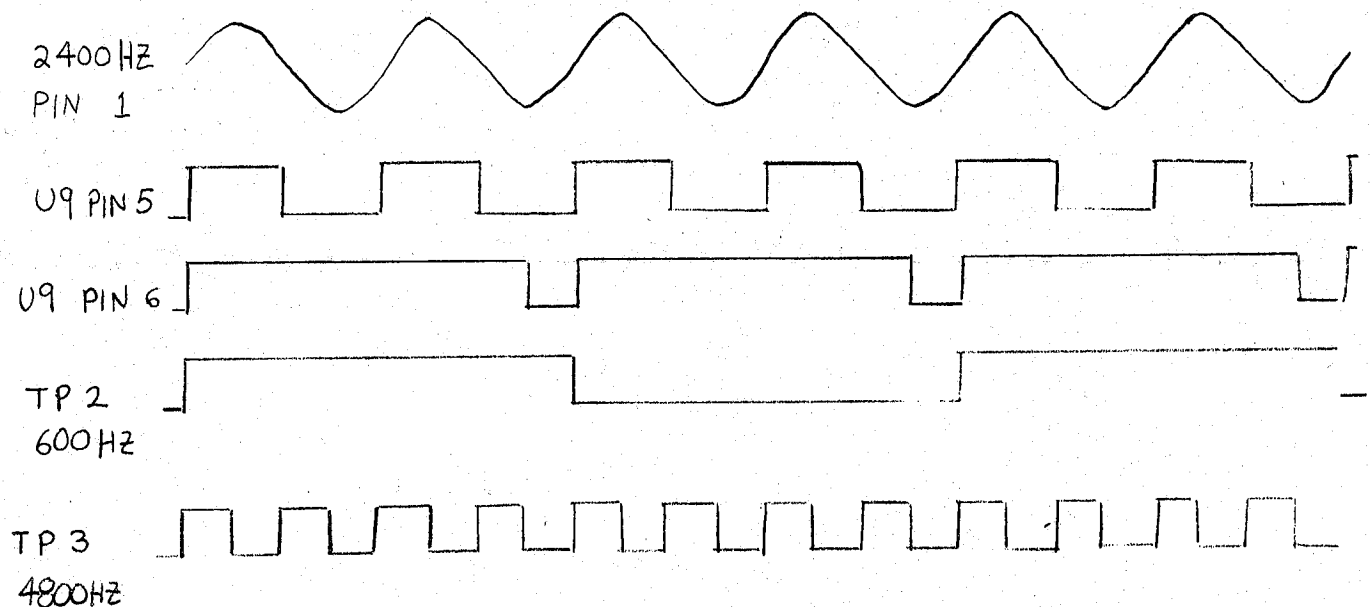

FIGURE 1
3. Adjust pot R11 until the signal at U9 pin 6 compares to the signal of U9 pin 5 as shown in figure 1.
4. Adjust pot R10 until the signal at TP3 compares to the signal at TP2 as shown in figure 1.